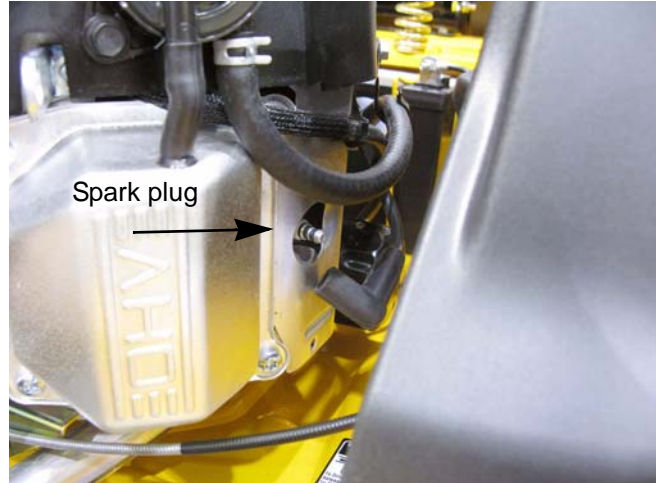

Figure 8.2
2. Remove the spark plugs with a 13/16" spark plug socket. See Figure 8.2.